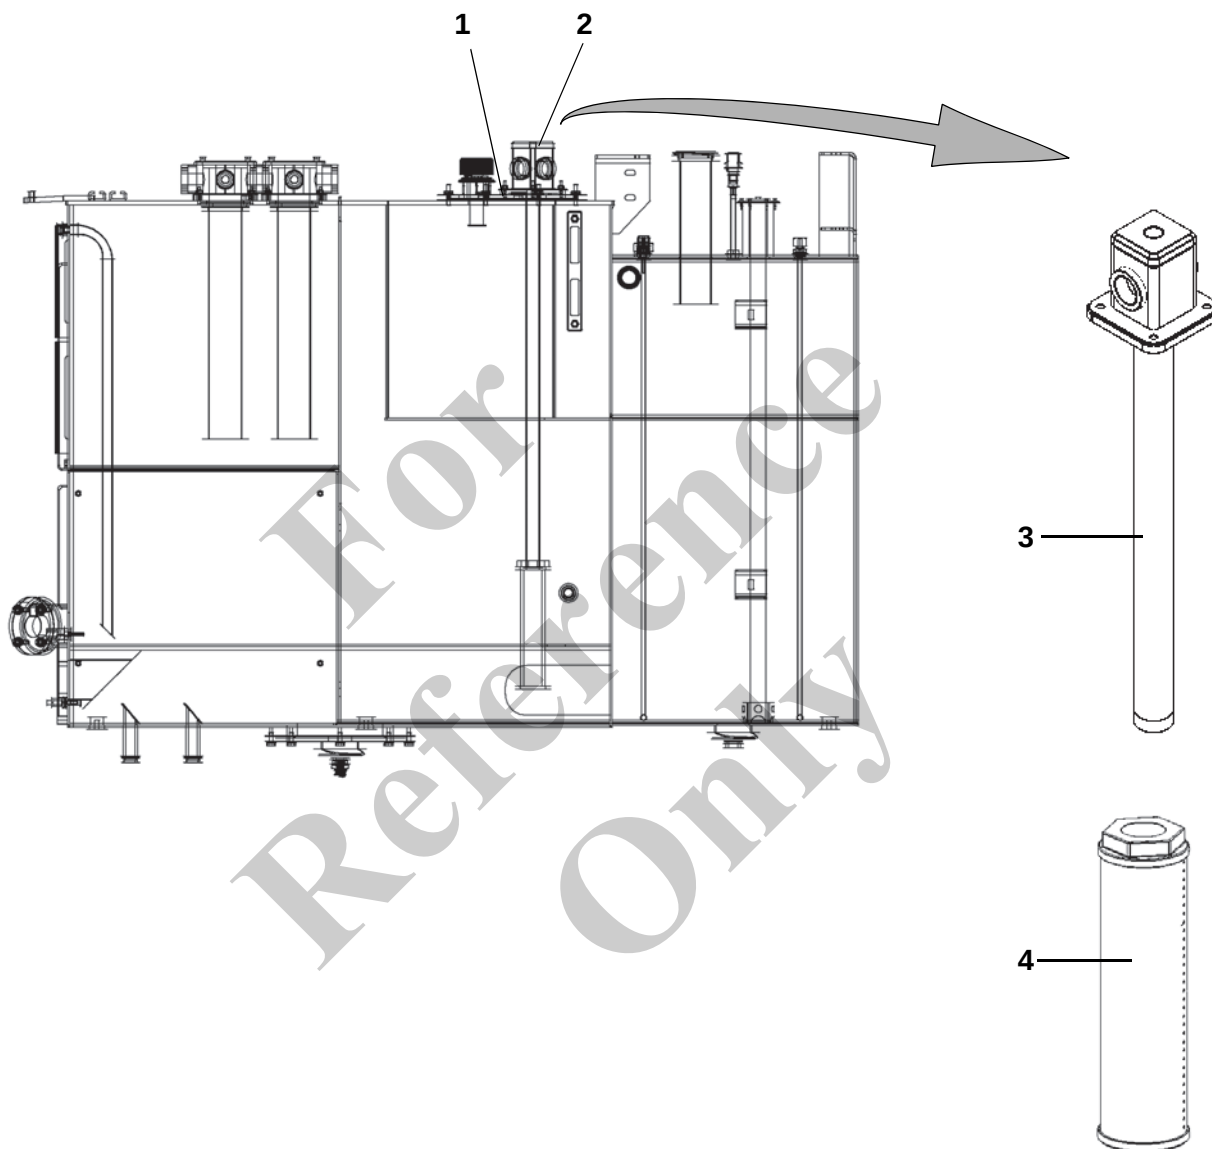

Fig. 19 Leakage oil filter
1	Unscrew the hex nuts (1) in Fig. 19.
2	Pull out the leak oil filter (2) in Fig. 19.
3	Unscrew the filter element (4) in Fig. 19 from the return pipe (3) in Fig. 19.
4	Screw a new filter element (4) in Fig. 19 onto the return pipe (3) in Fig. 19.
5	Insert the leak oil filter (2) in Fig. 19 into the tank.
6	Tighten the leak oil filter (2) in Fig. 19 using the hex nuts (1) in Fig. 19.